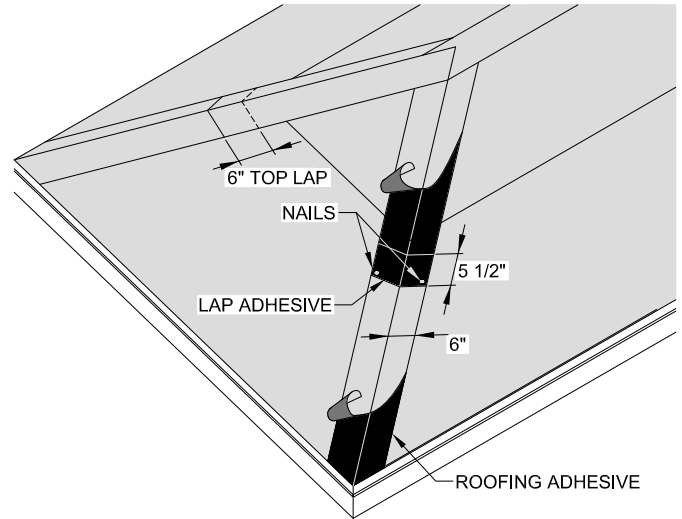

Figure 2 - Hips and Ridges: Concealed Fastener Installation
- Continue until the end of the hip or ridge is reached. (See Figure 2)